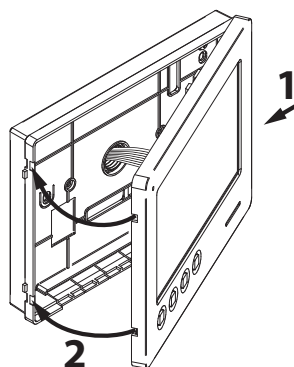

Fig. 7
6. Once testing is complete and all the necessary adjustments are made, close the unit as shown in Fig. 7: first hook in the right part and then the left part until you hear a "CLICK!".